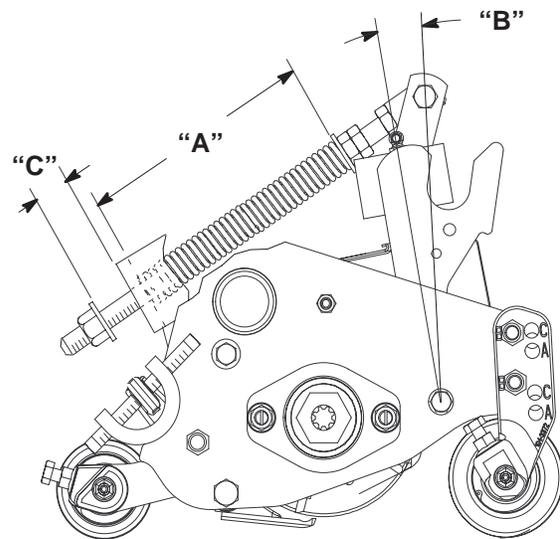

Figure 13
The turf compensation spring (Fig. 13), connecting carrier frame to cutting unit, controls the amount of fore-aft rotation available.
- Tighten locknut on rear of spring rod until the gap (C) between rear of spring bracket and front of washer is 1.25 in. (32 mm) (Fig. 13).
- Tighten hex nuts on front end of spring rod until the compressed length (A) of spring is 6.25 in. (328 mm) (Fig. 13).